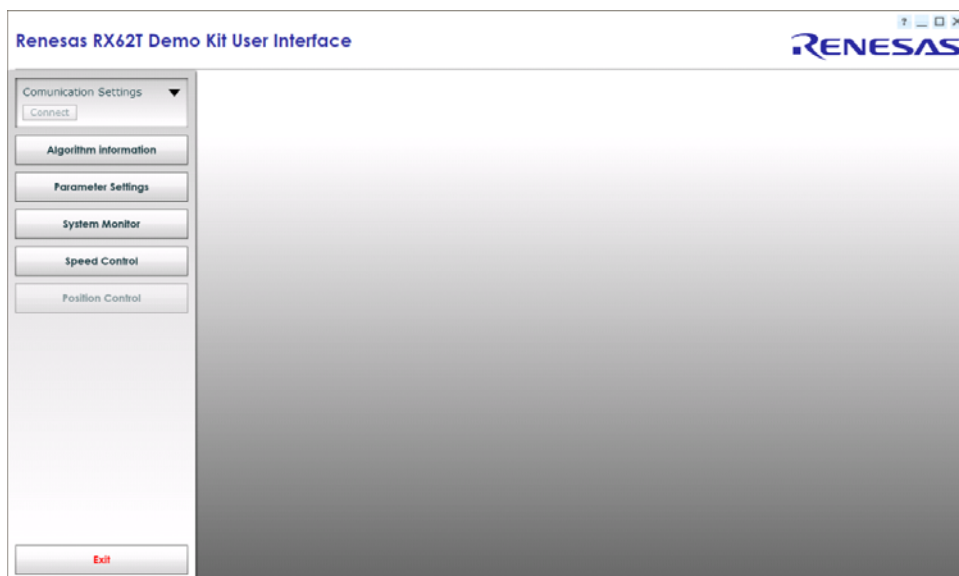

Figure 9 PC-GUI
- The GUI program screen will launch and display as shown in Figure 9: